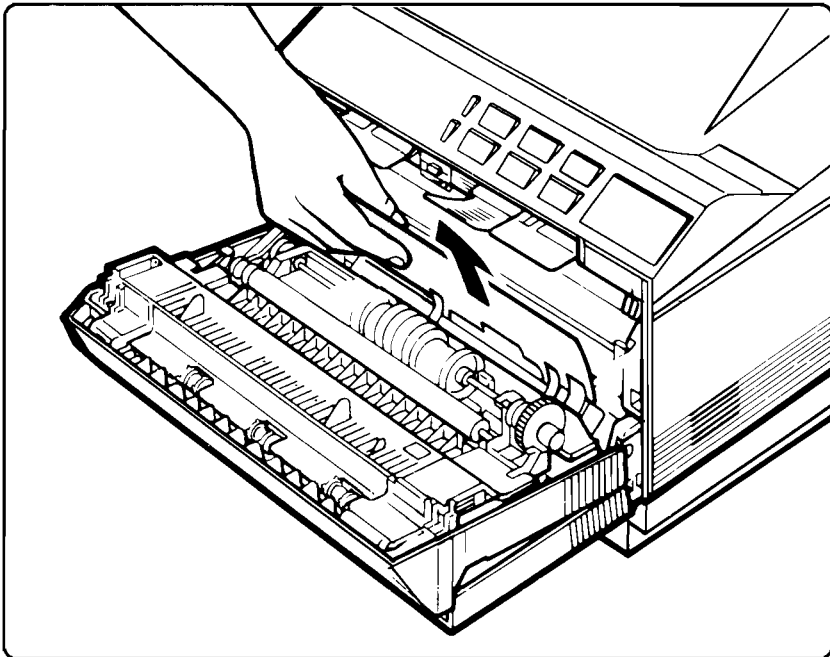

Figure 4-9. Clearing a Paper Jam from the Paper Pick-Up Area
1. If paper is jammed in the Multi-Purpose (MP) tray or in the paper pick-up area for the Optional Lower Cassette (LC), open the paper path door and carefully remove the jammed paper, trying not to tear it (see Figure 4-9). Be careful of unfused toner on the paper.